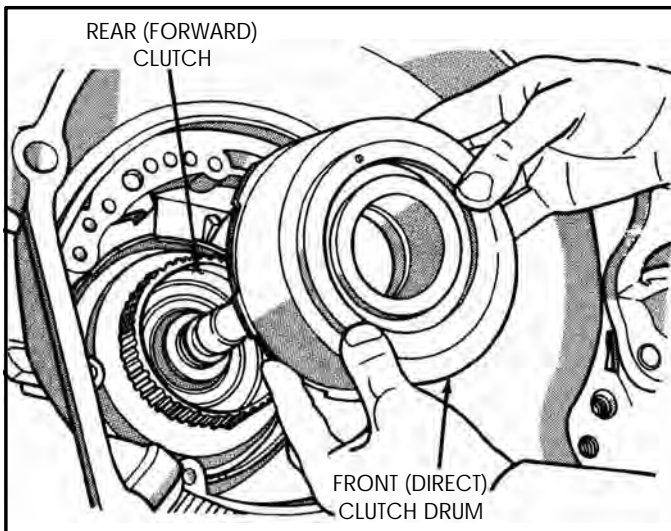

Figure 230
14. Install the pre-assembled front (direct) clutch housing, as shown in Figure 230, twisting back and forth to engage direct clutch plates, until fully seated.